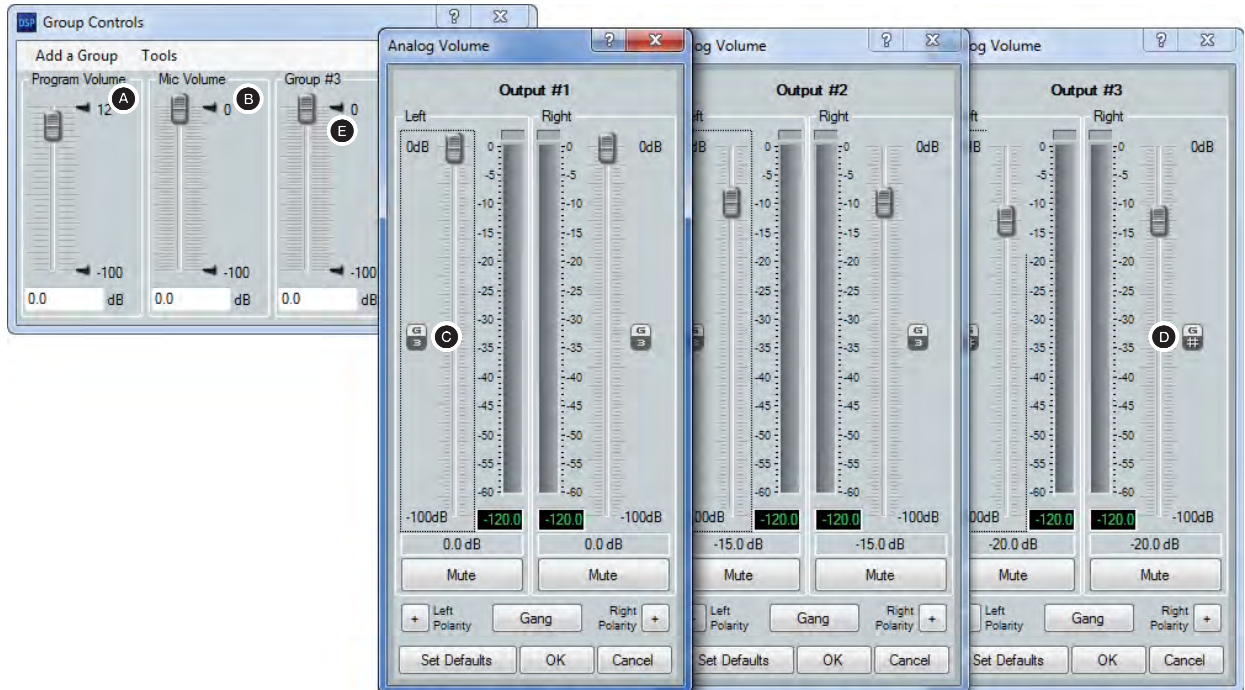
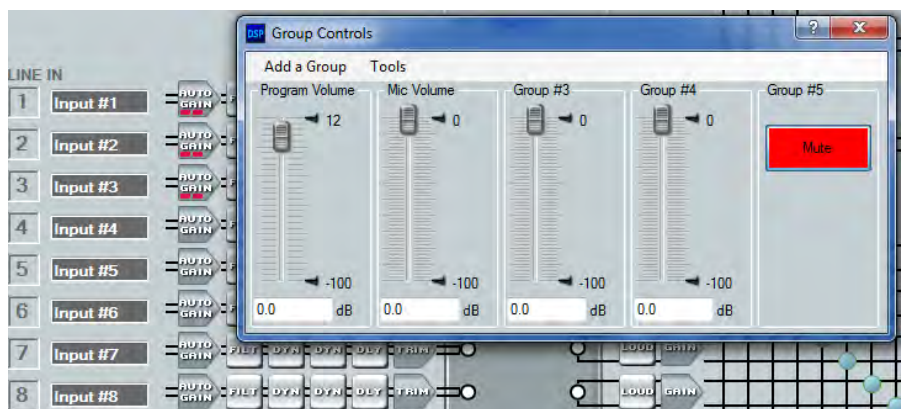

Figure 50. Sample Fader Group Master and Associated Gain Controls
Figure 51. Sample Mute Group Master and Muted Inputs
Any of the gain, volume, trim, bass, and treble fader controls for one or more gain blocks can be grouped with other gain blocks of the same type (in the same location in the audio signal path but for different inputs or outputs) for single-fader control of the entire group (see figure 50) Mute controls within the blocks can also be grouped (see figure 51). Up to 32 groups can be created, each can include up to 16 group members.
NOTE: Stereo gain blocks have two, left and right, signal paths. Each path counts as a group member, limiting you to up to eight gain blocks total for a control group of stereo gain controls. In figure 50, the group 3 master consists of six members.
As an example, assume that your system has several audio outputs dedicated to a single room. You want all outputs to receive the same audio input, but there are different audio dynamics in different parts of the room. Front row audience members need less mic audio mixed in, and you want to insert varying degrees of delay for different audience rows. The output 1 through output 3 analog volume controls can be grouped into a master that controls the volume throughout the room (see figure 50).
NOTE: By default, group 1 (A), in figure 50) is configured as the Program Volume. Group 1 masters the **Pre-mixer Gain control block** (see page 95), and parallels the front panel Volume control. Group 2 (B) is configured as the Mic Volume. It masters the **Mic/line Input Gain control block** (see page 93), and parallels the front panel Mic volume control. These default groups can be overwritten if desired, but not deleted (see the **System reset SIS** command on page 64).
An icon in the gain control indicates that that gain control is assigned to a group. In **figure 50**, on the previous page, the  icon (C) indicates group 3. The  icon (D) in the output 3 control indicates that that gain control is assigned to more than one group.